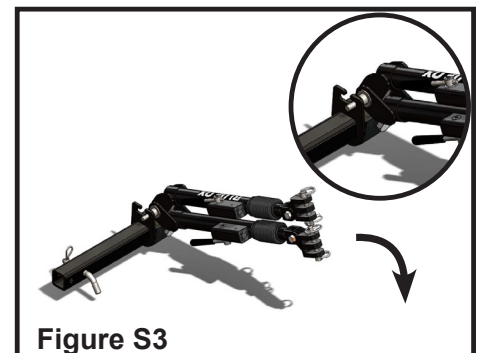

Figure S3
3. Rotate the legs down to either side until the hold up bolt engages completely to the side of the hitch connector slot (Figure S3).